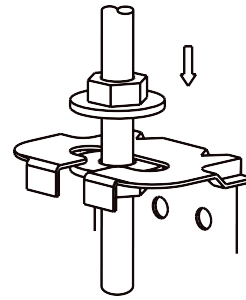

fig. 12.7
- Locate the air conditioner firmly by wrenching the nuts after having adjusted the body's position well. (refer to fig.12.7)